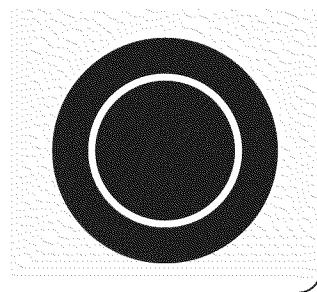

Figure 3
The cooktop is equipped with 1 or 2 dual radiant surface elements located at the **left front** and the **right front** position (Figure 1). Symbols around the knob are used to indicate which coil of the dual radiant element will heat. The ● symbol indicates that only the inner coil will heat (Figure 2). The ○ symbol indicates that both inner and outer coils will heat (Figure 3). You may switch from either coil setting at any time during cooking.
2. Push in and turn the control knob to the inner coil symbol for smaller cookware (Figure 2) or to inner and outer coil symbol for larger cookware (Figure 3). Turn the knob to adjust the setting if needed. Start most cooking operations on a higher setting and then turn to a lower setting to finish cooking. Each surface element provides a constant amount of heat at each setting. A glowing red surface heating area extending beyond the bottom edge of the cookware indicates the cookware is **too small** for the surface heating area.
2. At the keep warm controls position touch **temp** once to turn ON the the warm zone at the LO (Fig. 3) power level.
3. Each touch of **temp** will increase the power levels. The keep warm zone has 3 power levels from LO (Fig. 1) through MED (Fig. 2) to HI (Fig. 3) and back to LO. The power level may be adjusted at any time while the keep warm zone is ON.